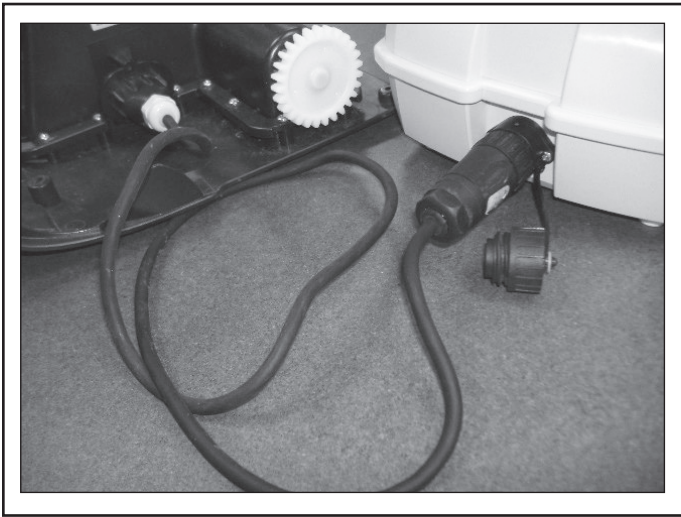

Figure 10. Motor Block Connected to Test Box
- Using the short test cable, connect the motor block to the Polaris Quick Diagnostic Test Box (see Figure 10).